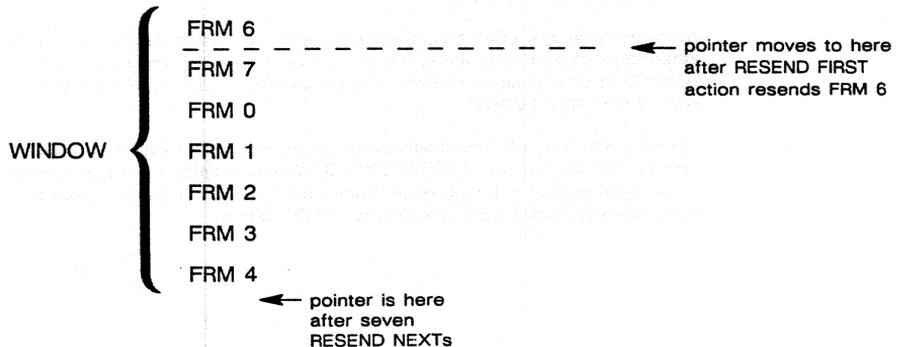

Figure 35-28 RESEND FIRST resets the pointer, allowing you to resend the entire window repeatedly.
1. *Resend first/next.* RESEND FIRST means that the resend-pointer is reset to the beginning of the window, the first frame in the window is resent, and the pointer is advanced to the second position in the window. The effect of a RESEND FIRST action is illustrated in Figure 35-28.